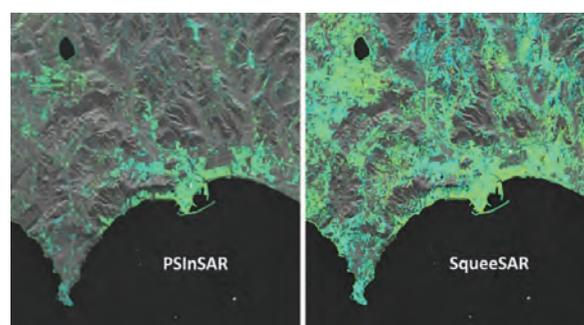

Figure 4: Example PS vs SqueeSAR. Copyright: TRE ALTAMIRA 2018.
been joined by arrays of 'Distributed Scatters' (DS), where clusters of ground cells with adequate coherence but low amplitude are aggregated to create a secondary form of measurement point, thus significantly increasing overall coverage (Ferretti, Novali, Rocca, & Rucci, 2011). See Figure 4.